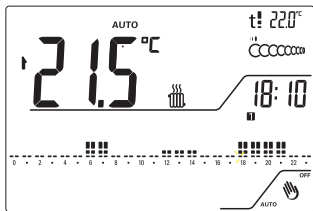
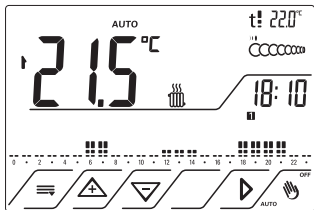

Fig.2
Fig.9
3.1 Starting from Stand-by, fig.2, press  ^{OFF}. Fig.9
4.2.1 Start display by pressing . Fig.9